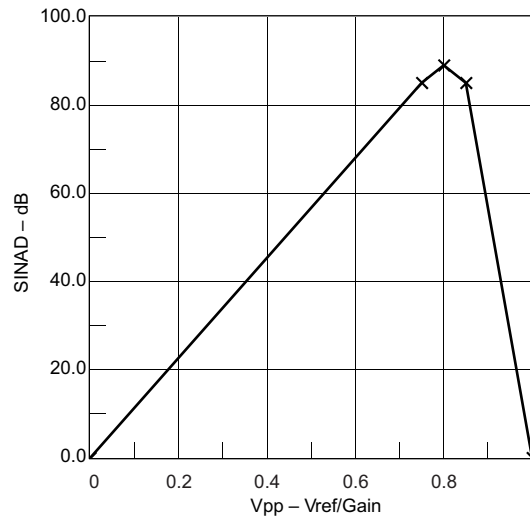

Figure 5-18. SINAD vs V_{PP}
- (1) The following voltages were applied to the SD24_B inputs: $V_{I,A+}(t) = 0\text{ V} + V_{PP} / 2 \times \sin(2\pi \times f_{IN} \times t)$ and $V_{I,A-}(t) = 0\text{ V} - V_{PP} / 2 \times \sin(2\pi \times f_{IN} \times t)$ resulting in a differential voltage of $V_{ID} = V_{I,A+}(t) - V_{I,A-}(t) = V_{PP} \times \sin(2\pi \times f_{IN} \times t)$ with V_{PP} being selected as the maximum value allowed for a given range (according to SD24_B recommended operating conditions) (also see Figure 5-18).